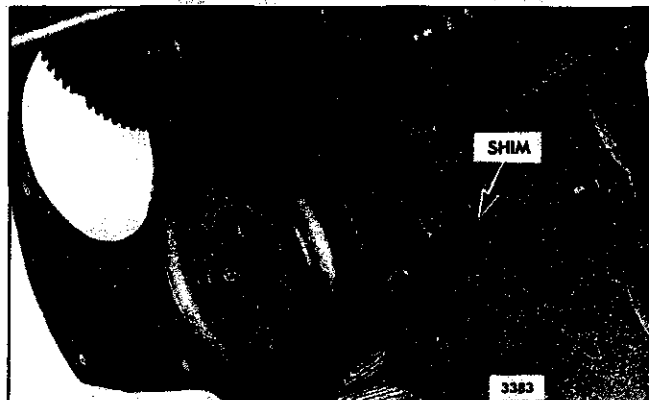

Fig. 2 – Location of Shim
3. If the flywheel housing has an integral cast hub, install a flywheel housing-to-end plate shim (.015" thick). Use grease to hold the shim to the cylinder block rear end plate (Fig. 2).